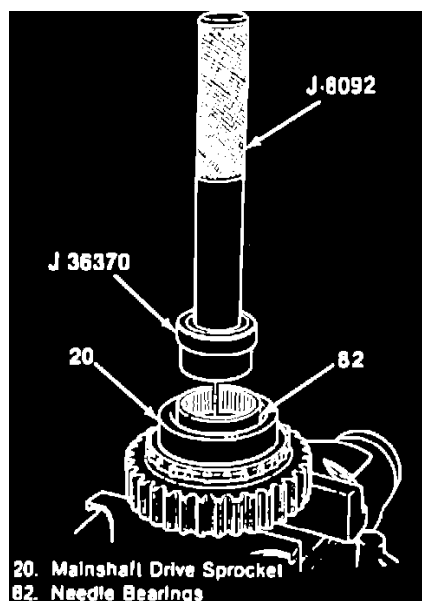

Fig. 25 Installing Needle Bearing To Front Drive Sprocket. New Process Models 231, 233 & 241 Transfer Cases
1. Install needle bearings to drive sprocket using J-36370 and J-8092. On model 241, ensure that sprocket is flush on synchronizer side. **Refer to Figs. 25 through 32 for aid in assembly of transfer case.**